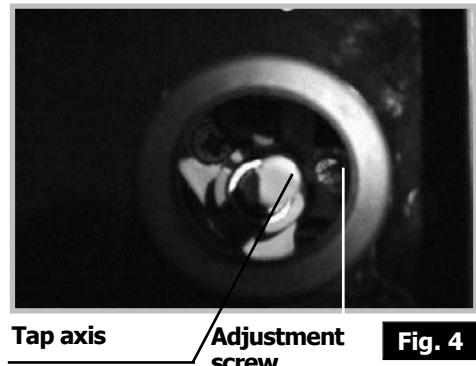

Fig. 4
- Using the small screwdriver provided, completely tighten the adjustment screw of the brass idle jets (yellow) (**fig. 4**) **anti-clockwise**.